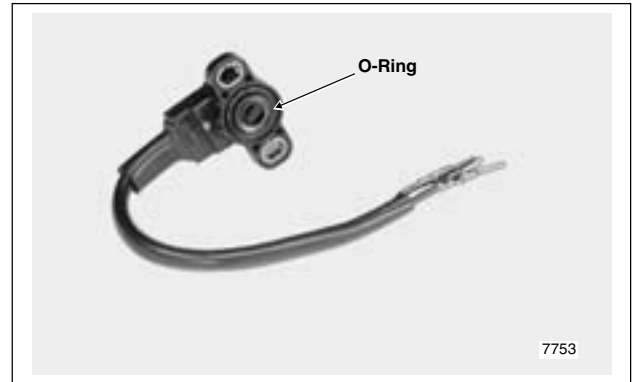

Figure 4-24. Throttle Position Sensor
1. Obtain **new** throttle position sensor. If old sensor is used, inspect O-ring for cuts, tears or signs of deterioration. Replace O-ring if necessary. See Figure 4-24.